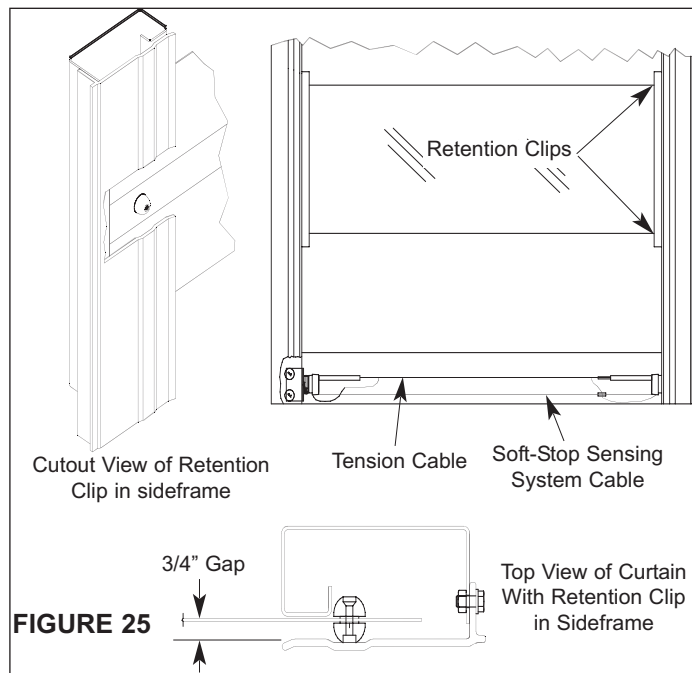

FIGURE 25
1. Retention clips have been installed on the Protecdoor curtain assembly for pressure resistance, and are located above and below the vision panel at the edge of the curtain, **Figure 25**.